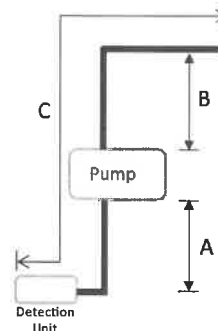

Fig. 2 – Maximum Lengths
The float switch in the detection unit also prevents overflow and can act as a safety device by shutting down the system. The detection unit comes with normally closed (NC) alarm contacts (user optional, but recommended). The normally closed alarm contact is a dry contact rated for 8 amps at 250 volts. In the event of a problem such as a clogged drain or pump discharge line, the alarm contact can be wired to shut down the entire system. The condensate pump provides 10 ft (3.0 m) maximum suction lift (A)-Fig. 2.
| Refer to Fig. 2 for (A), (B), (C)                |                          | Total tube length, 1/4" flexible hose (C)ft |     |     |     |
| Refer to Fig. 2 for (A), (B), (C)                |                          | Total tube length, 1/4" flexible hose (C)ft |      |      |      |